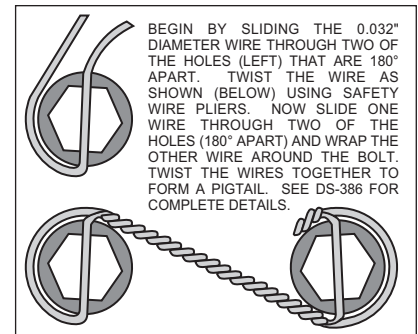

Figure 3. Safety Wire Diagram
•Slide bolt (3) through washer (2) from the backside of the modified OEM caliper mounting bracket. Apply red *Loctite*® 271 to the caliper mounting bracket bolt threads (3) before installation of the caliper mounting bracket (1). Install the caliper mounting bracket (1) with the threaded inserts facing the outside of the vehicle. Finger tighten. Repeat for the lower mounting holes. Torque bolts to 30 ft-lb.
•With the larger I.D. side of the rotor (4) facing away from the hat (5), bolt rotor (4) to hat (5) through the back side of the rotor using washers (6) and bolts (7). Torque bolts (7) to 103 in-lb. Safety wire bolts (7) using standard 0.032 inch diameter stainless steel safety wire as shown in Figure 3. Please refer to Wilwood's data sheet DS-386 (available at [www.wilwood.com/pdf/ds386.pdf](http://www.wilwood.com/pdf/ds386.pdf)) for complete safety wire installation instructions. Slide the rotor/hat assembly onto the hub. Install a couple of lug nuts (finger tighten) to keep the rotor/hat assembly in place while continuing with the installation.